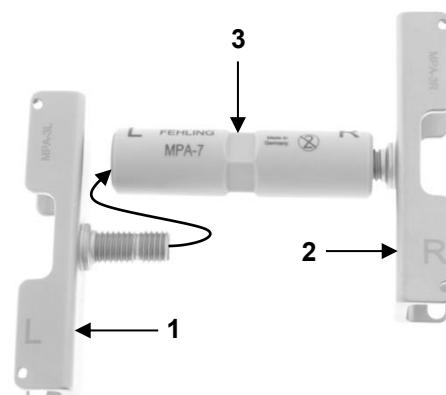

Fig. 13: Sternal retainer with sternal blade mounted on one side
Take one suitable sternal blade with a left-hand thread (1) and one with a right-hand thread (2) and screw into the PEEK nut (3) as far as they will go (Fig. 13, curved arrow). Arrange the system so it is symmetrical.